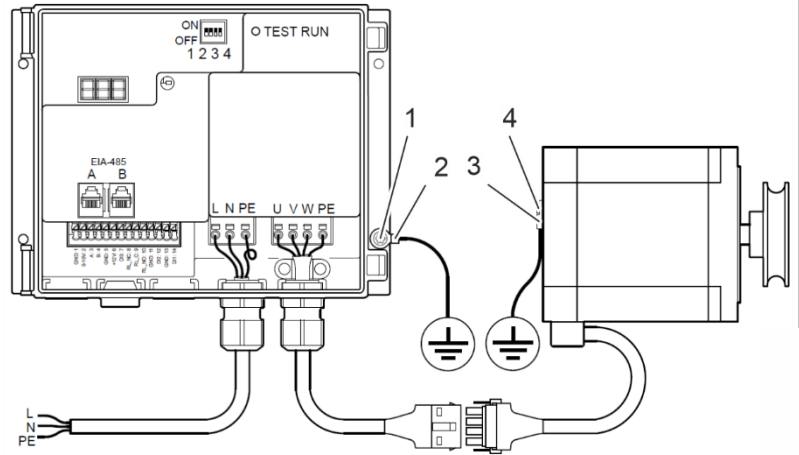

Fig. 101: Equipotential bonding
- Fasten the potential equalization of the rotor cleaner drive with a ring cable lug (Fig. 101/2) to the housing of the rotor cleaner drive. To do this, use one of the holes (Fig. 101/1) that are used to attach the rotor cleaner drive to the housing of the rotary heat exchanger.
- Fasten the potential equalization of the stepper motor with a ring cable lug (Fig. 101/4) to the stepper motor. To do this, use the M3 hole (Fig. 101/3) on the backside of the stepper motor.